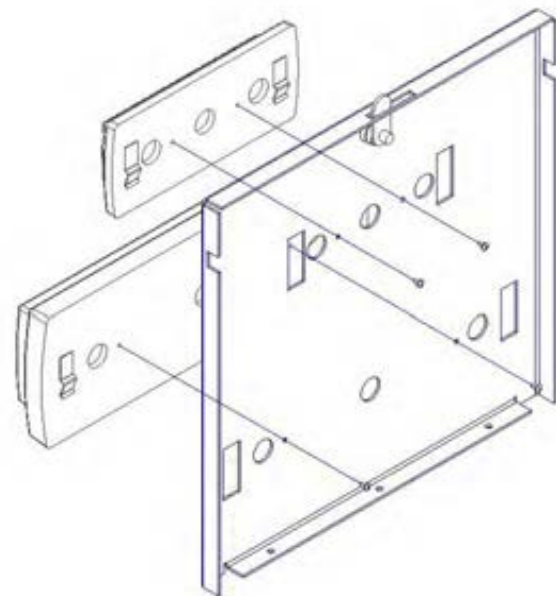

Figure 2
Step 1 – Install the access point so that the door is to the left when the access point is upright. Securely fasten the *Cisco AIR-AP-BRACKET-1* to the mounting holes on the back wall of the enclosure using (4) # 8-32 screws. Attach the screws to the **outer** hole pattern. Attach the *Access Point* to the mounting plate. Proceed to Step 3 (Figure 2).
Step 2 – Install Cisco 2.4 GHz and 5 GHz antennas by inserting the connectors and cables through the .700" dia. holes in the cover. The antennas should be installed so that the open ends of the T-Bar clips on the antennas are facing toward the hinge of the enclosure. After the cables have been pulled through the door, use the #4-40 screws to connect the antennas (Figure 2).